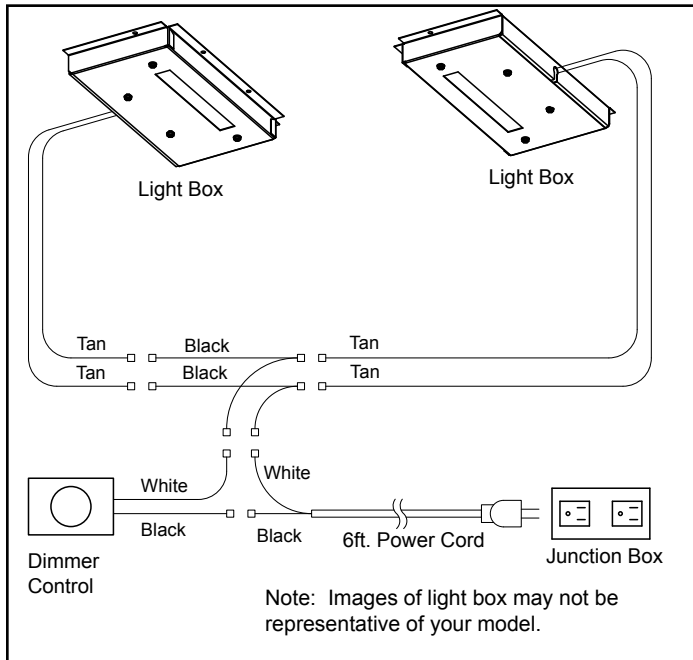

Figure 7 - Wiring Diagram
11. Attach wires from light sockets assemblies to light join harness. Two (2) male spades from each light socket should attach into the paired female spades of the light join harness. See wiring diagram Figure 7.